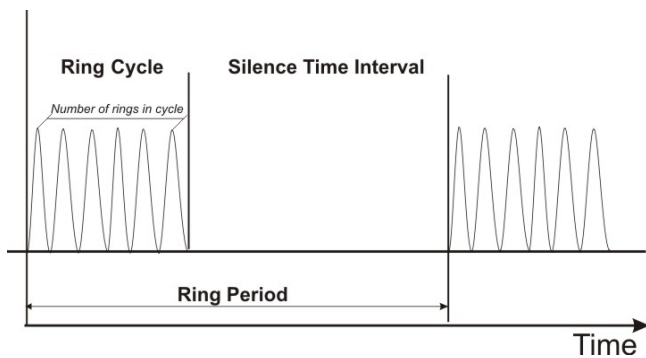

Figure 3. Ring Cycle
- **Defining a ring type to distinguish between PSTN and Door Panel call.** The user can program the ring cycle and silence interval for the ring that will sound when the incoming call is from the door panel. To program this ring type, use DTMF commands *362, *363 and *364. The ring cycle is illustrated in Figure 3.